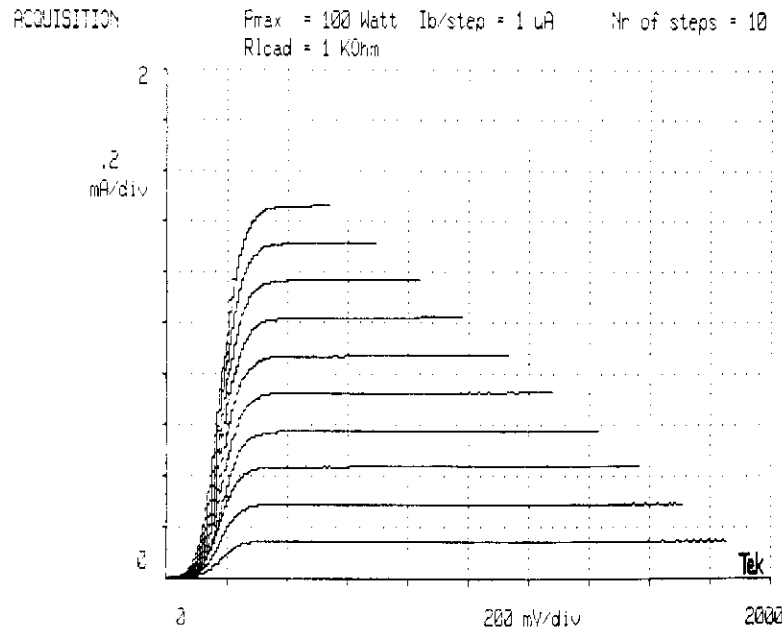

Figure 3-7: Loadline Curve
Step 3. Press START. The curves will end along the loadline representing a load of 1 kΩ. (Figure 3-7)